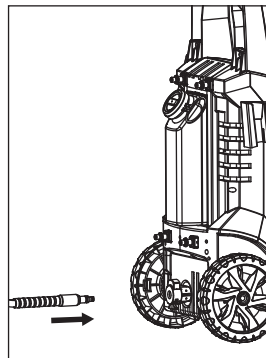

Figure 9 - Attach high pressure hose to high pressure outlet
7. Attach high pressure hose to high pressure outlet (See Figure 9).